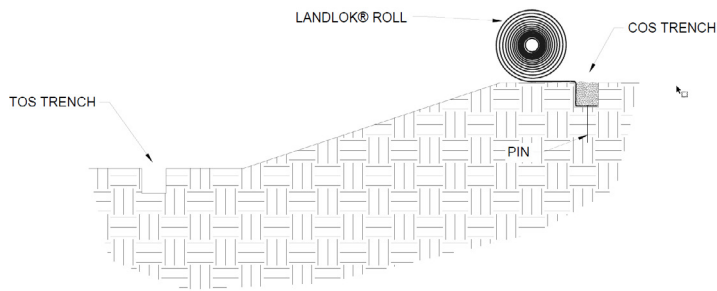

Figure 5: Crest of Slope (COS) Trench Placement
- Wire Staples should be made of steel with a 6 in x 1 in x 6 in (152 mm x 25 mm x 152 mm) 11 gauge wire or 8 in x 1 in x 8 in (204 mm x 25 mm x 204 mm) 8 gauge wire with sufficient ground penetration to resist pullout. (Figure 5).
4. Backfill and compact the COS trench in the location of the first TRM panel only (Figure 5).